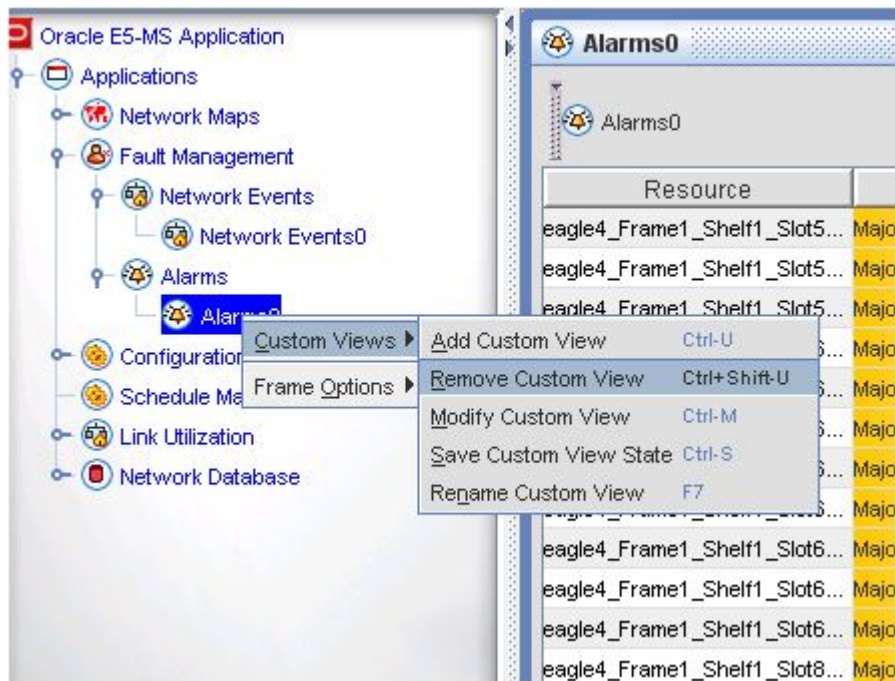

Figure 114: Deleting a Custom View By Using Left Navigation Pane
- Right-click on the custom view node under the Network Events/Alarms node in the left navigation pane, and choose **Custom Views > Remove Custom View** as shown in *Figure 114: Deleting a Custom View By Using Left Navigation Pane*.